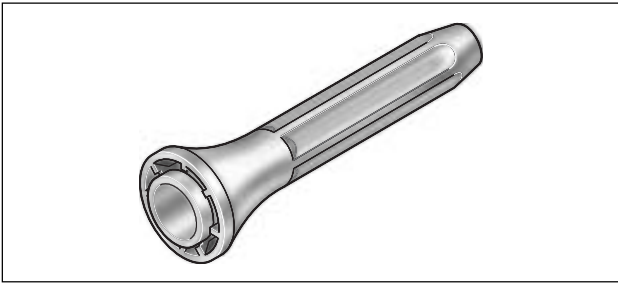
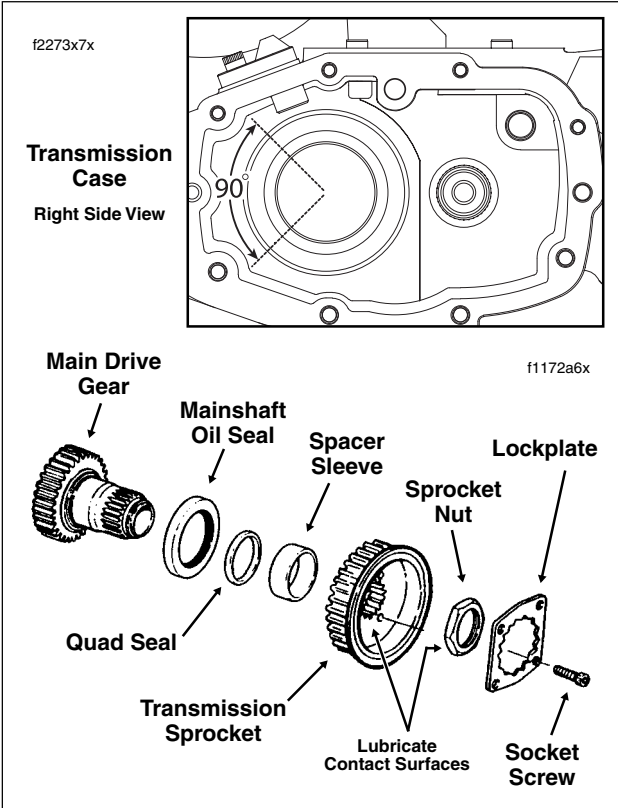

Figure 7-31. Main Drive Gear Large Oil Seal Installer (Part No. HD-41496)
Figure 7-32. Install Transmission Sprocket Components
1. Install **new** main drive gear bearing using the MAIN DRIVE GEAR REMOVER/INSTALLER (Part No. HD-35316B). To prevent damage, always apply force to the bearing outer race during installation. Install a **new** retaining ring with the beveled side out and the 90° opening facing the rear. See inset of Figure 7-32. Install the main drive gear in the transmission case using the special tool.
3. With the garter spring side out (toward the transmission case), place a **new** seal on lip of MAIN DRIVE GEAR LARGE OIL SEAL INSTALLER (Part No. HD-41496). See Figure 7-31. Slide the tool over the mainshaft so that it is positioned squarely over the bearing bore in the transmission housing. Hand press the seal into the bore; a rubber mallet may be used to lightly tap the driver, if necessary. Install the quad seal. See Figure 7-32.